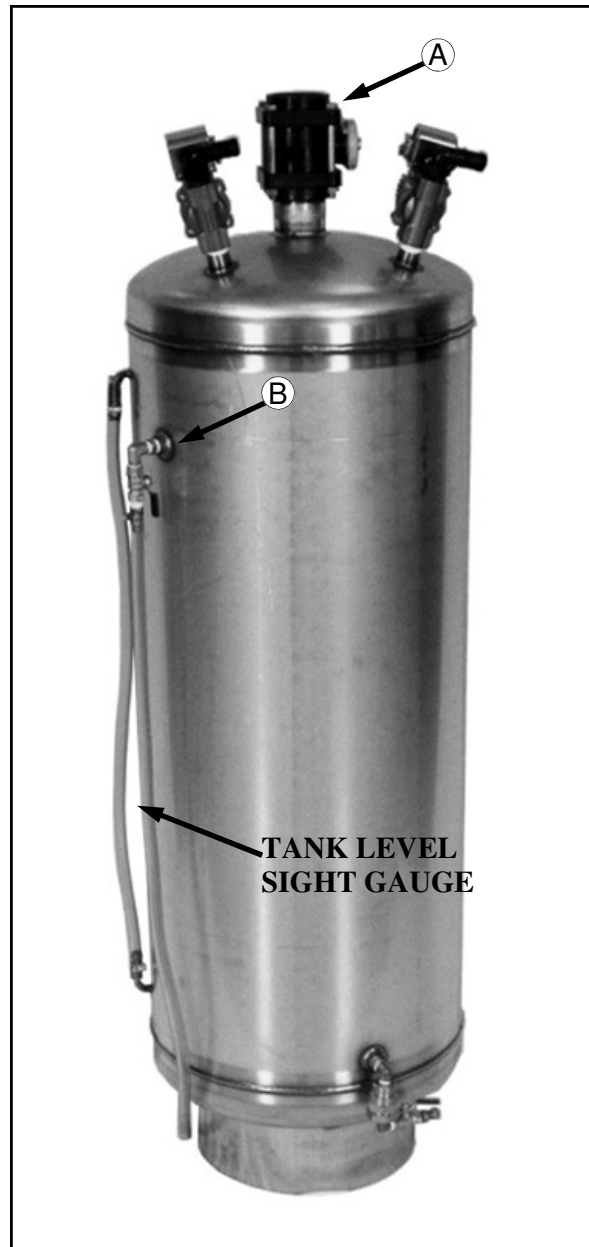

FIG 56-1
**FILLING THE FOAM MARKER SYSTEM**– Relieve pressure from the foam tank by opening the ¼” ball valve on the side of the foam tank (fig. 56-1, item B). Close the ball valve after pressure is relieved. Open the top 2” ball valve (fig. 56-1, item A). Add water to the tank, leaving enough room for the foam concentrate. Next add the foam concentrate according to the label on the container. After filling is complete, close the 2” ball valve on top of the tank. Start the sprayer’s engine and adjust the air pressure accordingly (see previous page).